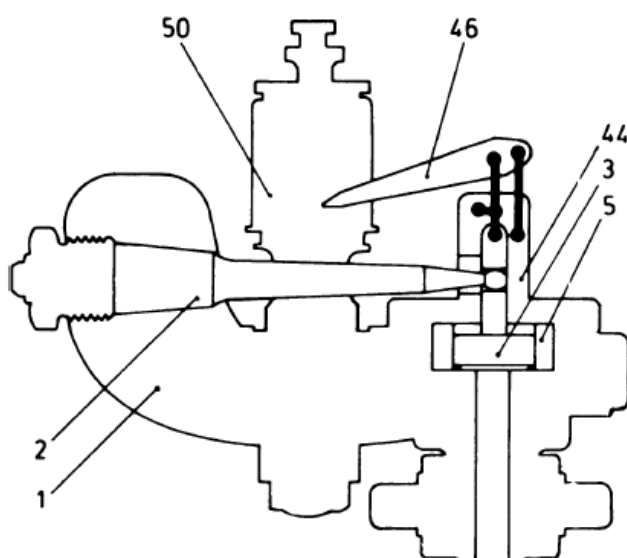

Fig. 1 - Schematic drawing
Fig. 1 shows the schematic outlines of the Leutert bar spring indicator drawing particular attention to its principal features. Contrary to the indicators types 50Z1 and 30/1, the type S1 indicator has a bar spring (2) instead of a double-coiled helical spring which - being a body of almost equal resistant - is stressed by bending. The special design of its indicator places its natural frequency far above that of indicators using a helical spring. Consequently, type S1 indicator permits perfect diagrams to be obtained at speeds up to about  $2400 \text{ min}^{-1}$  and pressure change rates up to about  $32000 \text{ bar/sec}$ .